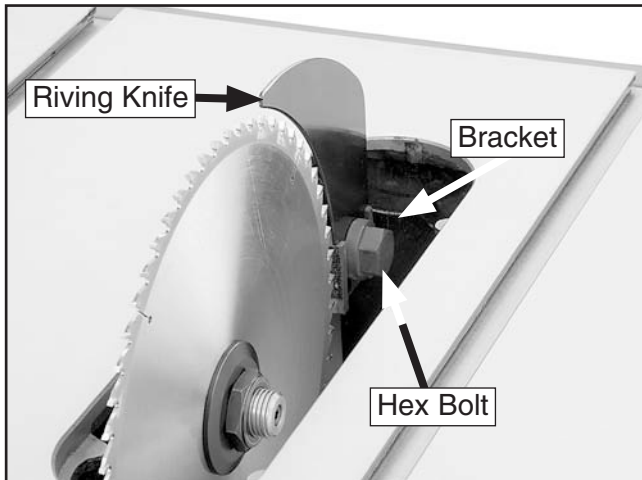

Figure 29. Riving knife installed.
2. Loosen the hex bolt (**Figure 29**), insert the riving knife into the bracket slot, and tighten the hex bolt to secure the riving knife.